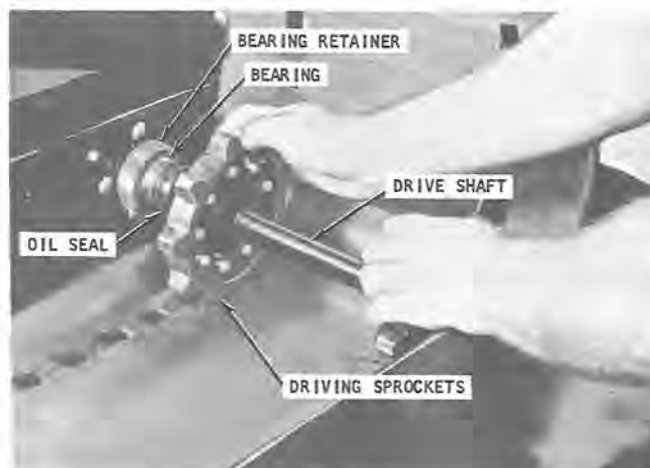

Figure 15
- Using a screw driver, carefully pry the oil seals (figure 15) away from the bearings at each end of the drive shaft.